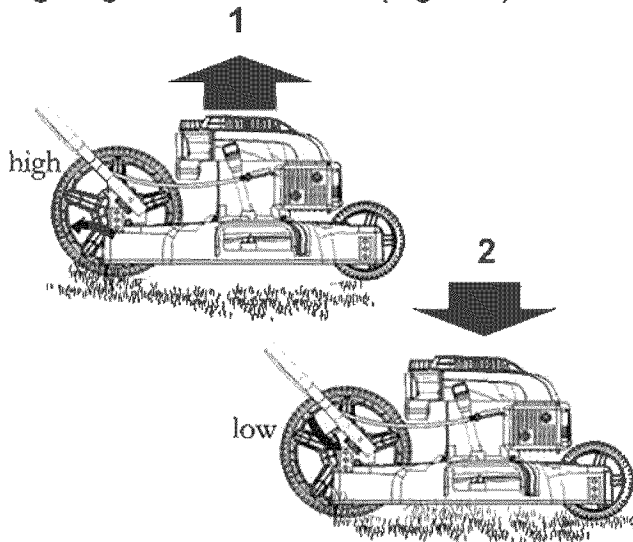

Figure 7
**Note:** To raise the mower, move the cutting height levers forward; to lower the mower, move the all the cutting height levers rearward (Figure 7).